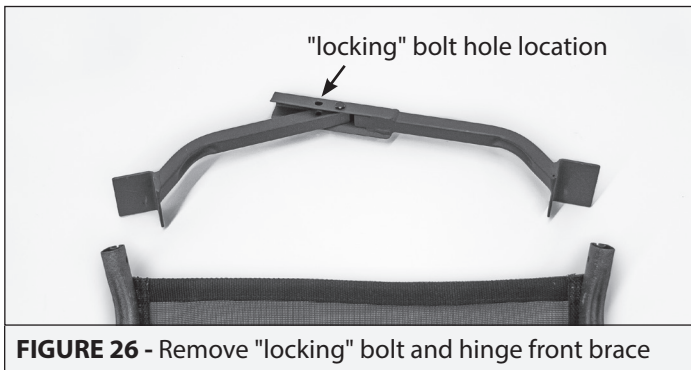

FIGURE 26 - Remove "locking" bolt and hinge front brace
- Remove the factory installed "locking" bolt and locknut from the front hinged brace (18725), and set aside. Hinge the brace slightly to aid in assembly. **SEE FIGURE 26.**